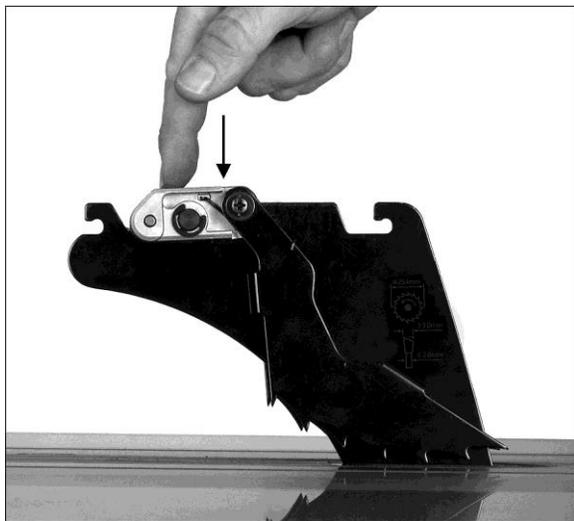

Figure 5-11
2. Pivot head and push it downward (Figure 5-11) until there is an audible click. *Make sure you hear the click to verify that pawl assembly is secure.*